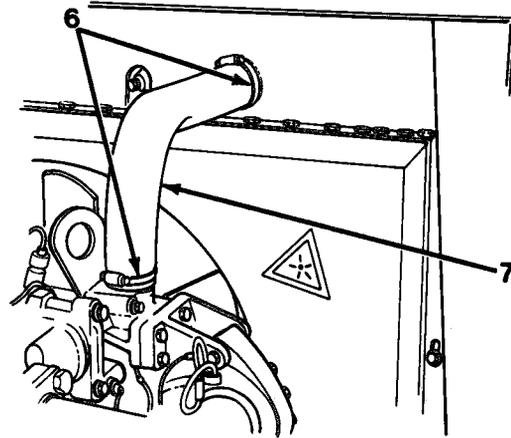
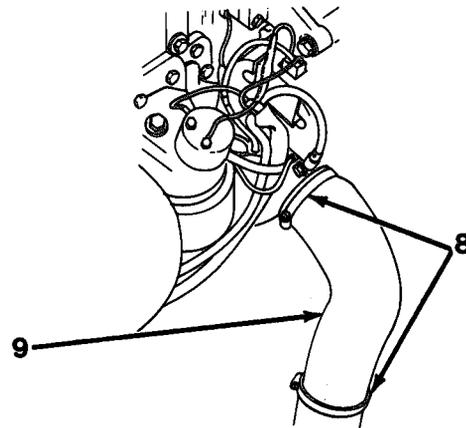

Figure 9-4
Figure 9-5
6. Remove two clamps (6), upper hose (7, Figure 9-4), two clamps (8) and lower hose (9, Figure 9-5) from radiator and engine.